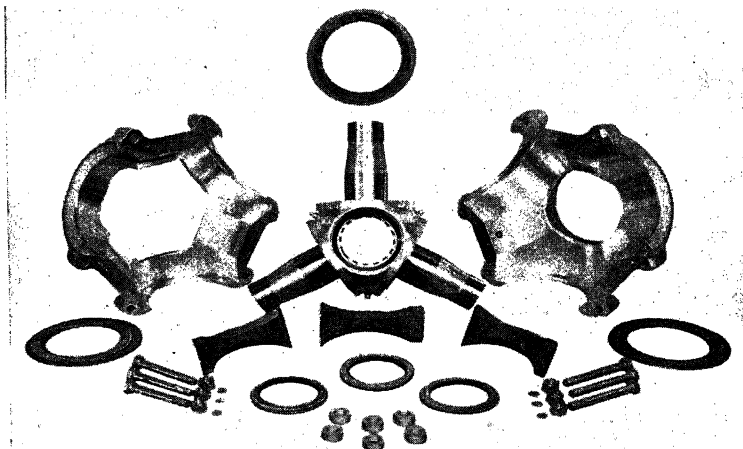

Fig. 4.—Parts of a three-blade propeller hub.
**Description of Parts.**—The *spider* is a chrome-nickel-molybdenum steel forging. Its splines, cone seats, and arms are machined to close tolerances. It connects the propeller to the engine and carries the torque and thrust loads on the blades. Figure 4 shows its various parts.